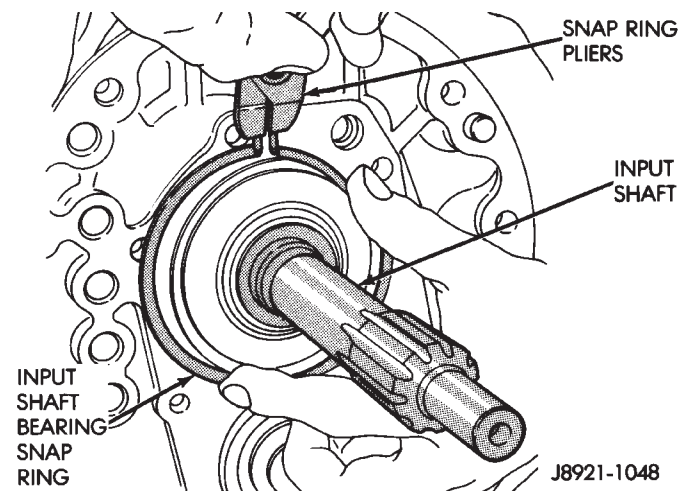

Fig. 32 Remove Input Shaft Bearing Snap-ring
(21) Remove input shaft bearing snap-ring (Fig. 32).